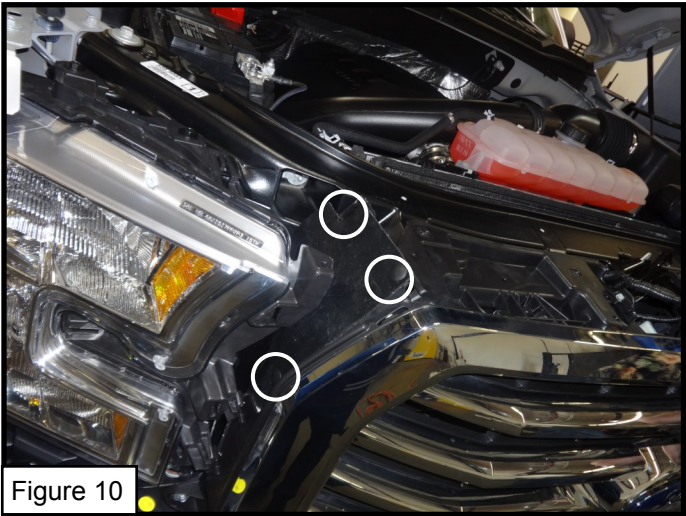

Figure 10
8. Remove plastic push pins (Figure 10).